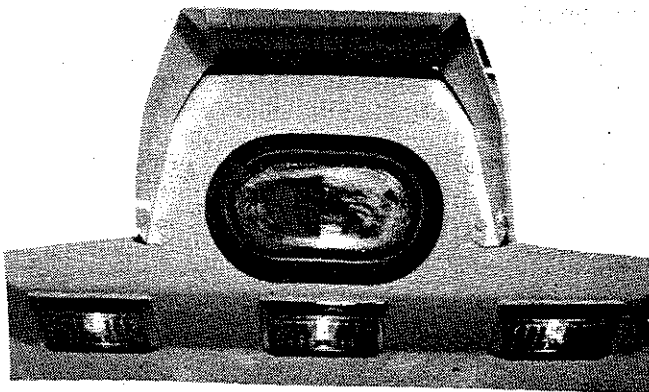

Figure 2-15. CCTV Camera Port
- CCTV camera, located in the rear of the coach, figure 2-15.